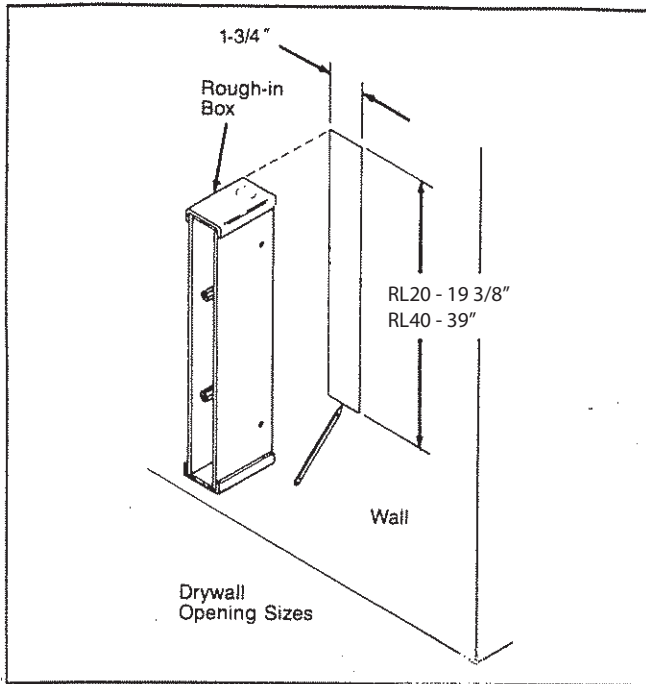

Figure 3.
**NOTE** Figure 3 shows the drywall opening sizes for each model of light fixture.